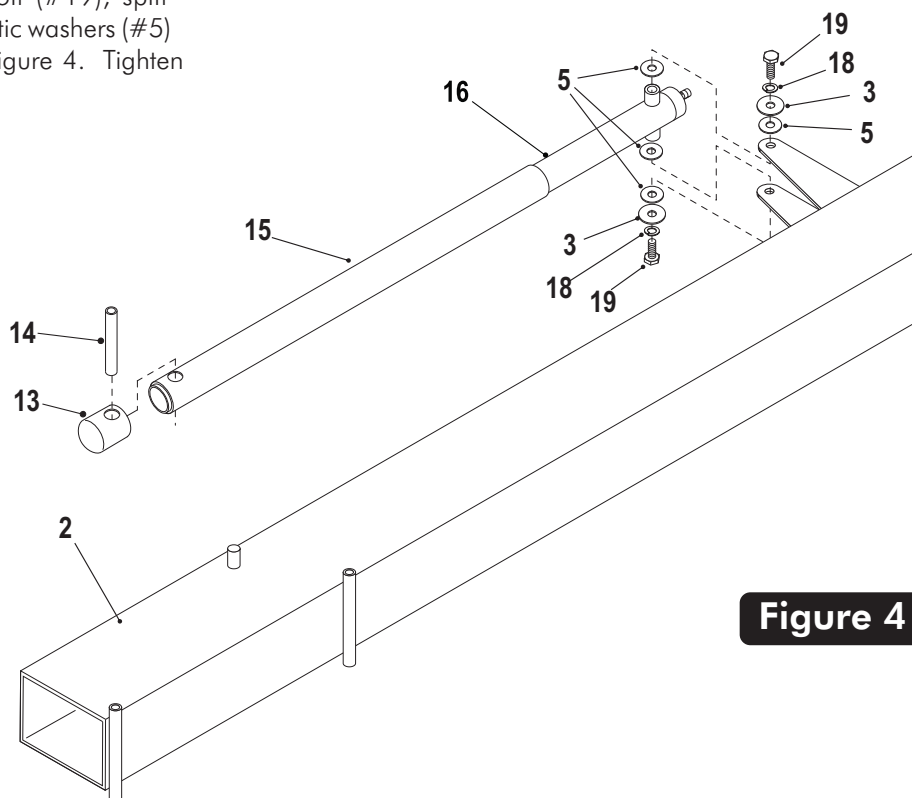

Figure 4
2. If not already pre-assembled, slide Plastic Actuator Sleeve (#15) over Steel Actuator (#16) and place Actuator Cap (#13) on top. **Align holes in all 3 parts** and slide Pivot Tube (#14) through holes in Actuator Cap (#13) Plastic Actuator Sleeve (#15) and Steel Actuator (#16) until equal amounts stick out through both sides of actuator. See **Figure 4**.
3. Lay Pole (#2) on its side on two padded saw horses. Attach Actuator (#16) to Pole (#2) using one bolt (#19), split lockwasher (#18), washer (#3) and two plastic washers (#5) to thread into each side of Actuator. See Figure 4. Tighten bolts tight.